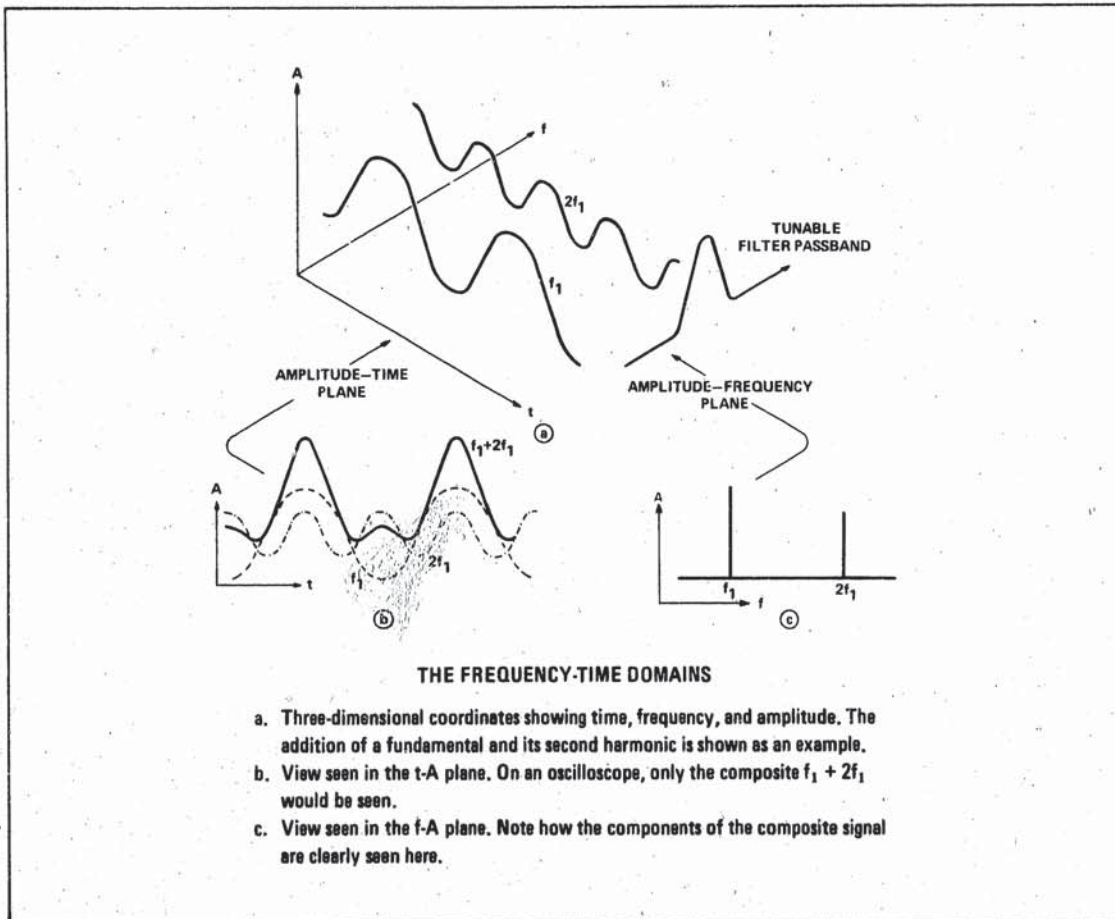

Figure 1. Frequency and Time Domain
The spectrum analyzer is a receiver that displays signals in the frequency domain. The CRT on the analyzer displays signal amplitude (A) on the vertical axis and frequency (f) on the horizontal axis. A method of visualizing how a spectrum analyzer views the frequency domain is to picture a tunable bandpass filter (that scans the frequency axis (see Figure 1). At any instant in time, the analyzer views only the signal it is tuned to receive, rejecting all others. In this way, all the individual